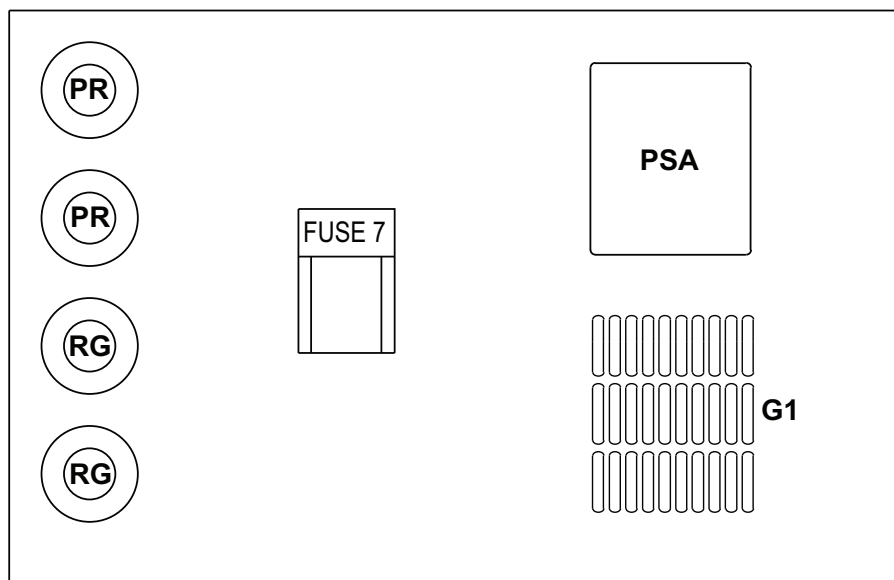

Fig.5
10. Remove batteries fuse FUSE7 (Figure 5 page 8) and wire the batteries pack as shown on pages 19 and 20.
- 1- With disconnected loads and before to have carefully check batteries connection, insert FUSE7 fuse (see fig. 5 page 30) and verify that the main AC input is disconnected through it's magnetic-thermal switch previously installed.